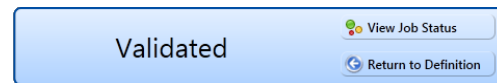

Figure 10-10. Validated Message
- 13 To validate the definition, click the  **Prevalidate** button. When the validation process completes and the following message displays (Figure 10-10), click  **View Job Status** to open the *Job Status* window or  **Return to Definition** to open the *Definitions window*.